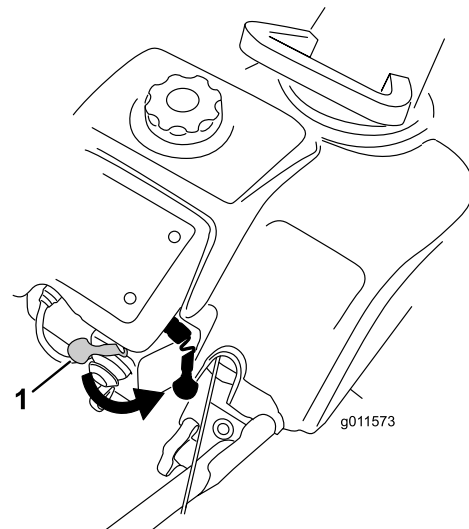
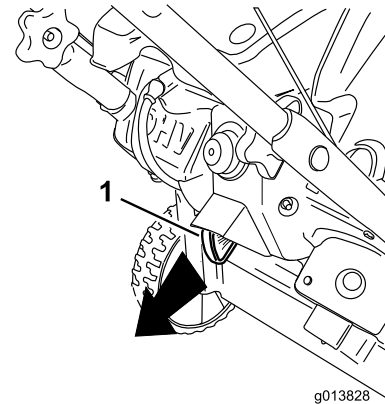

Figure 13
Figure 19
2. Move the choke lever fully to the right (Figure 13).
To shut off the engine, pull the ignition key outward until it clicks into the OFF position (Figure 19) or move the choke lever fully to the right (Figure 13).